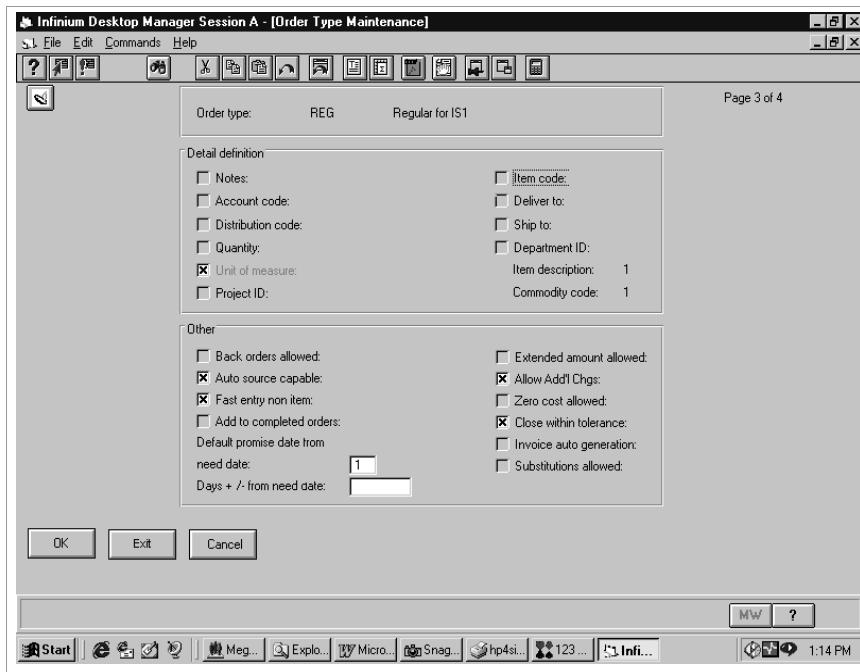

Figure 4-16: Order Type Maintenance screen 3
- 5 Press Enter twice. The system displays the screen shown in Figure 4-16.